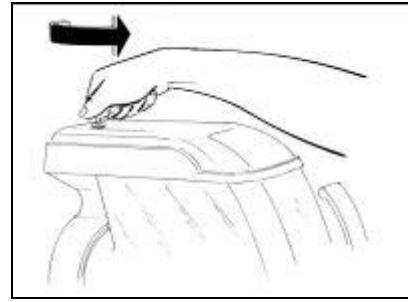

Fig. 1
The machine has to be placed on a sturdy, horizontal surface making sure it is well ventilated by leaving a gap of 20 cm around it and do not install it near heat sources (fig.1); we recommend you to maintain a room temperature between 24 and 32°C (between 75°F and 90°F).
- After unlocking the main cover with its key (fig.1), remove the main cover and the secondary one under it (fig.2).